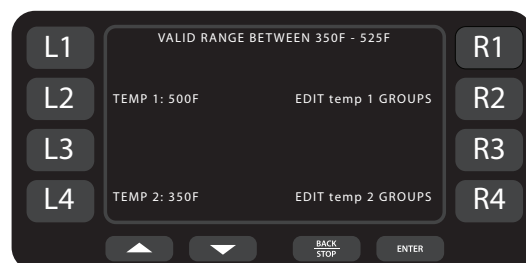

Figure 26: Temperature Edit Screen
2. Press the L2 soft key to change temperature 1 or L4 soft key to change temperature 2 (Figure 26).
2. Press the R2 soft key to edit temperature 1 groups or the R4 soft key to edit temperature 2 groups (Figure 26, page 17).